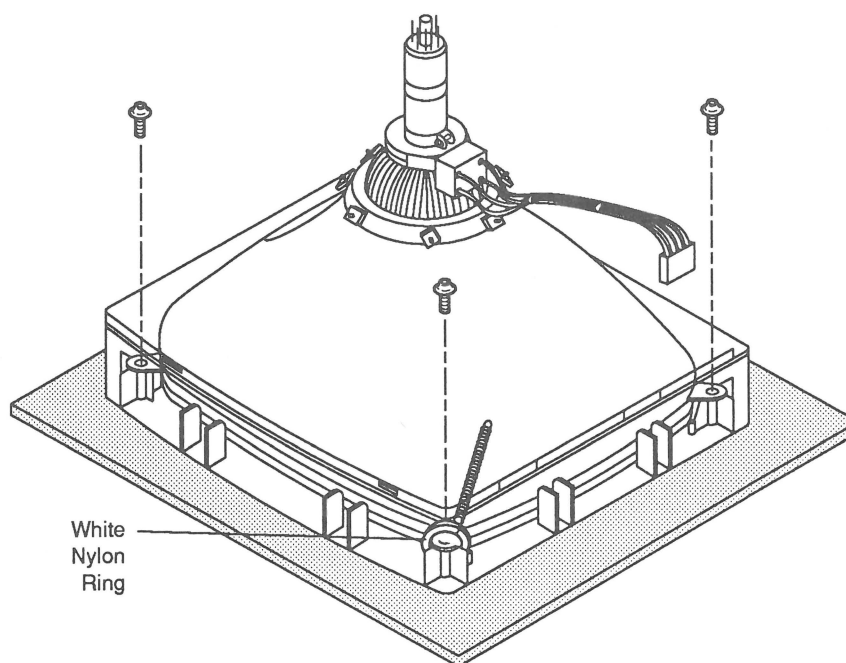

Figure 2-6 CRT Removal
4. Remove the white nylon ring, with the spring attached, from the right-front mounting tab on the CRT mounting bracket (**Figure 2-6**).